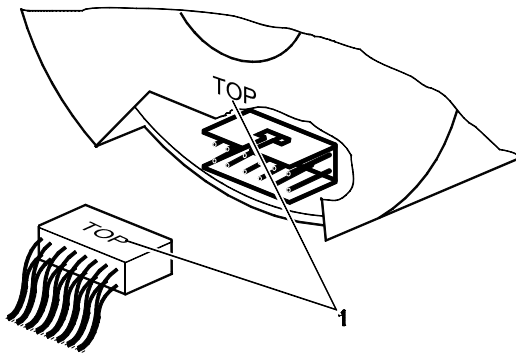

Figure 8 Electrical encoder fitting
3. Press the plug in (Figure 8)
Follow Top on Top (1, Figure 8) or the mechanical coding (2, Figure 8).